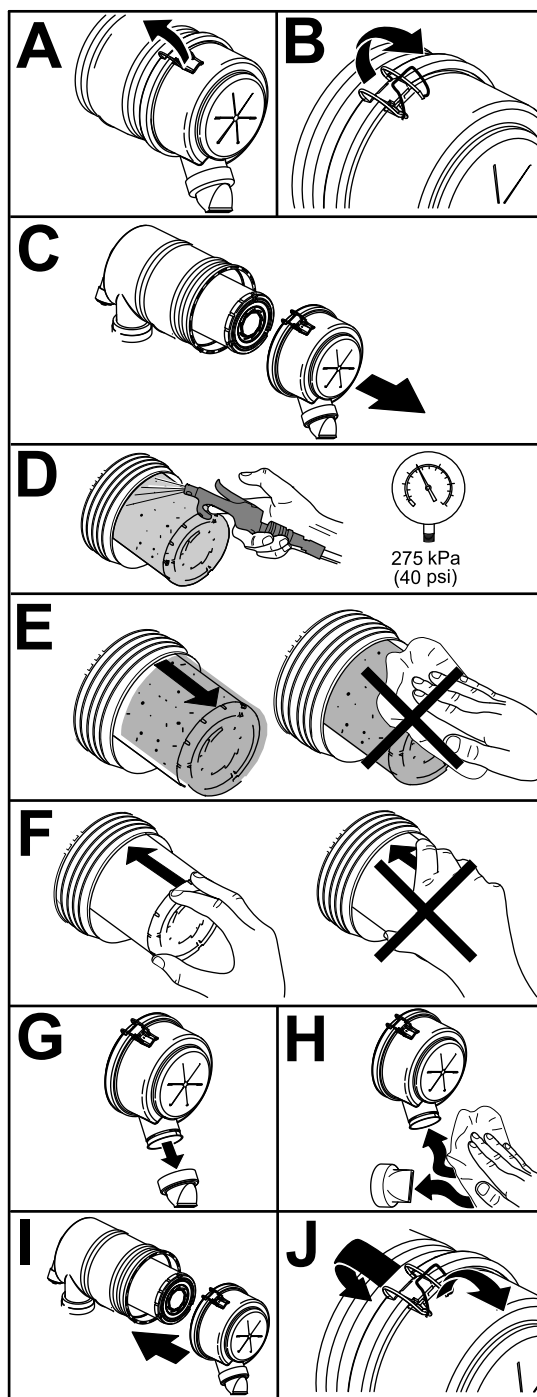

Figure 69
1. Replace the air cleaner (Figure 69).